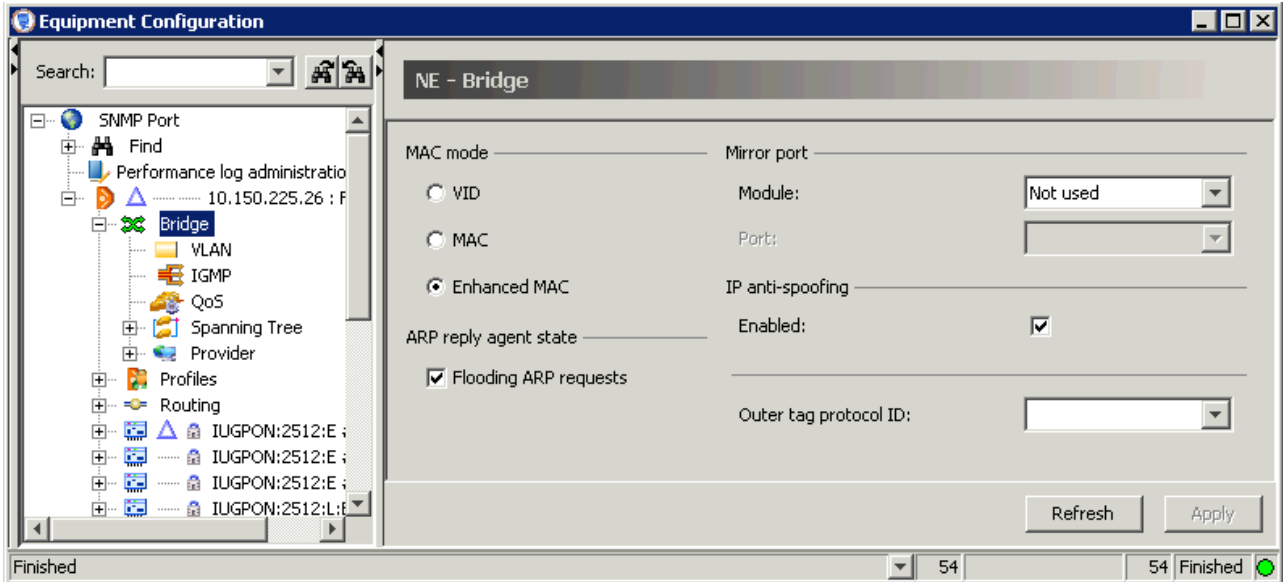

Figure 39 MAC Mode
1. Click "NE:hiX5750 ⇨ Bridge" to display the "NE Bridge" dialog page (see Figure 39).